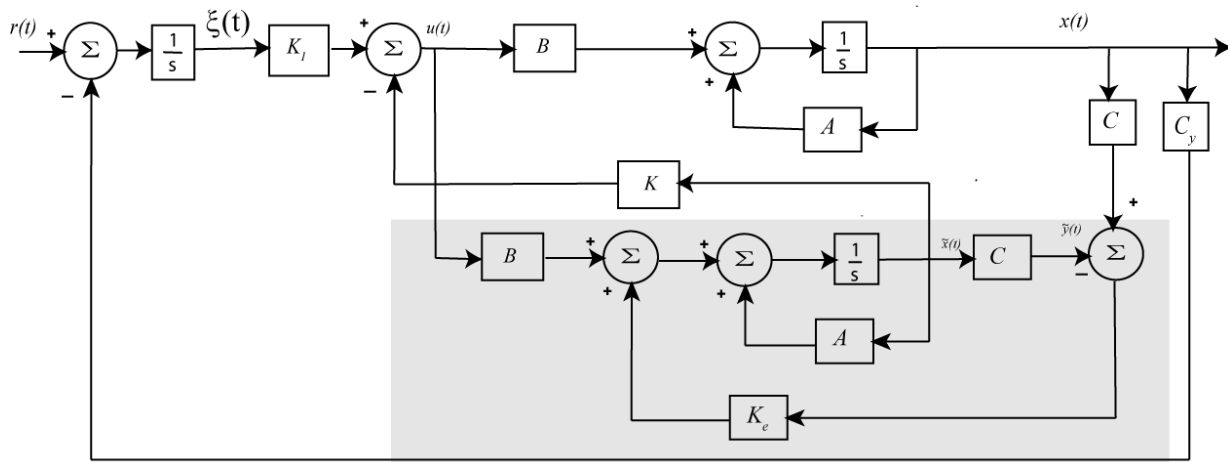

Figure 17. Full order observer state variable feedback structure with integral control.
a) Copy your program `sv1_observer_driver.m` to a new file `sv1_observer_int_driver.m`, then copy the Simulink file `sv1_observer.mdl` to `sv1_observer_int.mdl`. Modify these new files to implement state variable feedback with an observer using integral control. The basic control scheme is shown below in Figure 17.